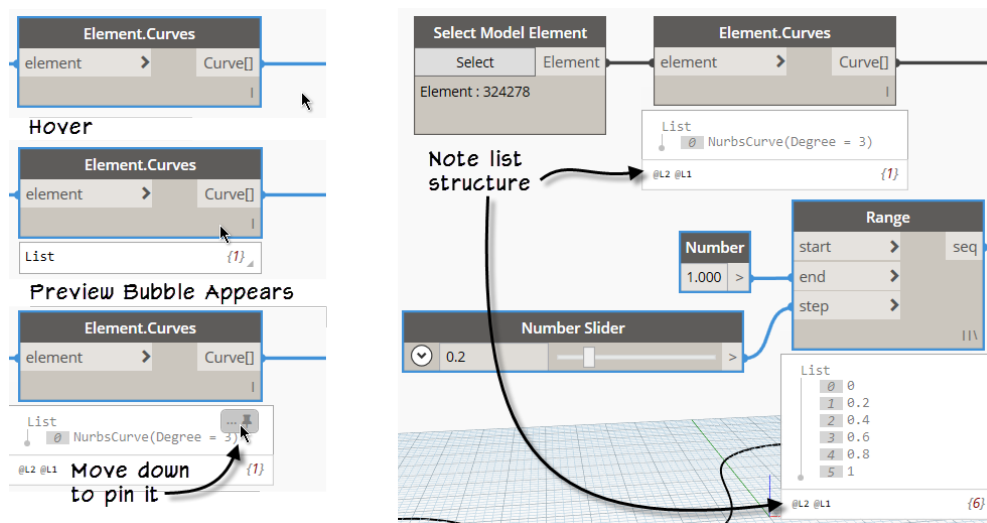

FIGURE 36
18. Repeat for the **Range** node (see Figure 36).